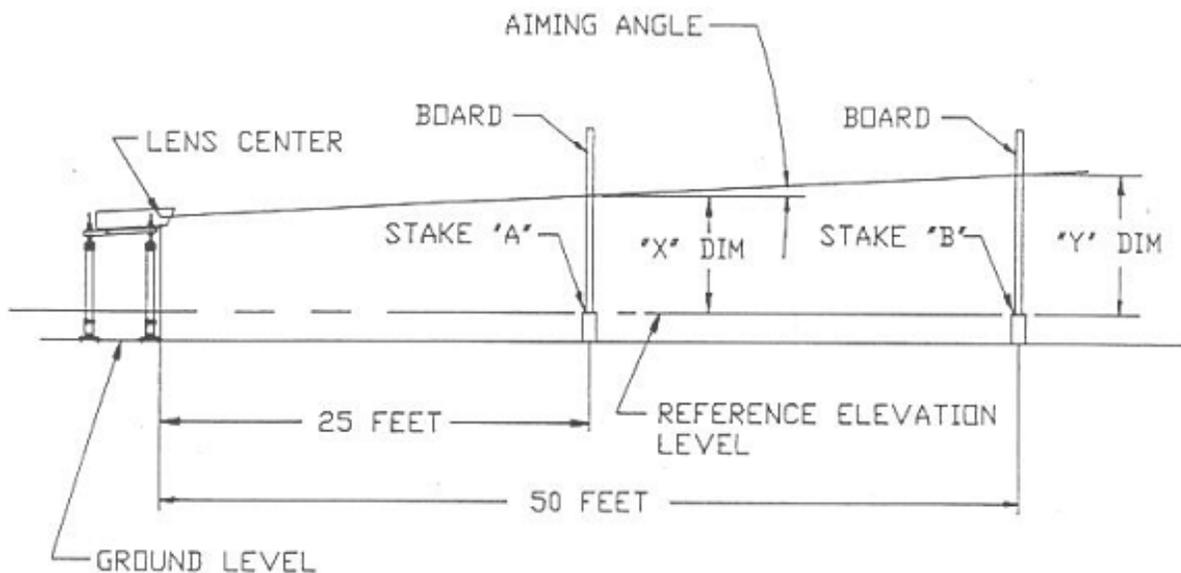

Figure 3, PAPI Unit Glide Slope Angle
6.8. Record the distance from the top of the stake to the hole. This is dimension X. See figure 3.
6.9. Repeat steps 6.4. through 6.8. for stake B. The distance from the top of the stake to the hole is dimension Y. See figure 3.